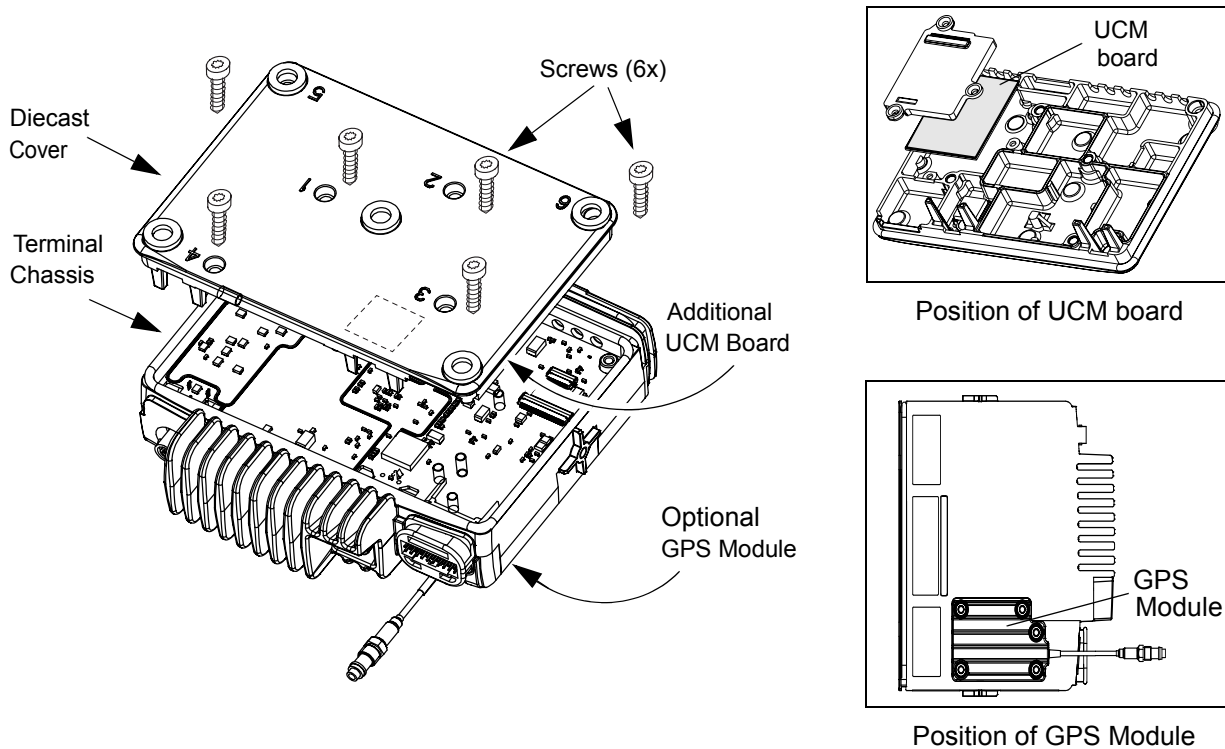

Figure 6-4 Diecast Cover Removal
1. Remove six screws from the diecast cover using the T20 TORX™ driver as shown in Figure 6-4.